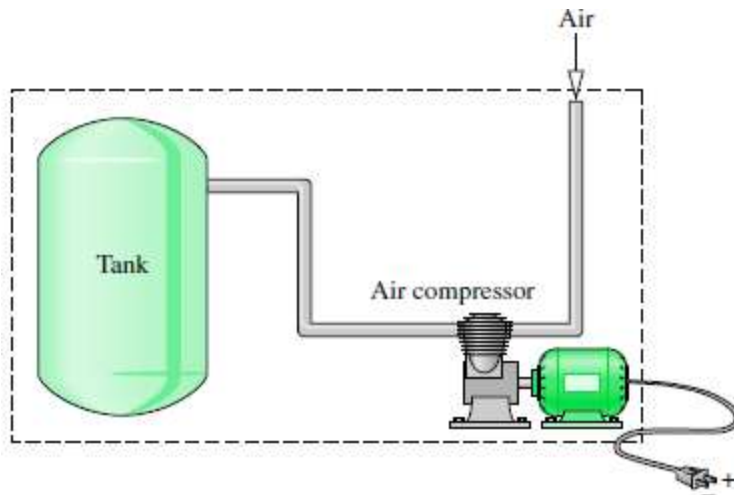

Figure 3: Air compressor and storage tank.
The term *control mass* is sometimes used in place of closed system, and the term *open system* is used interchangeably with control volume. When the terms control mass and control volume are used, the system boundary is often referred to as a *control surface*. In general, the choice of system boundary is governed by two considerations: (1) what is known about a possible system, particularly at its boundaries, and (2) the objective of the analysis. *for example..* Figure 3 shows a sketch of an air compressor connected to a storage tank. The system boundary shown on the figure encloses the compressor, tank, and all of the piping. This boundary might be selected if the electrical power input were known, and the objective of the analysis were to determine how long the compressor must operate for the pressure in the tank to rise to a specified value. Since mass crosses the boundary, the system would be a control volume. A control volume enclosing only the compressor might be chosen if the condition of the air entering and exiting the compressor were known, and the objective were to determine the electric power input.